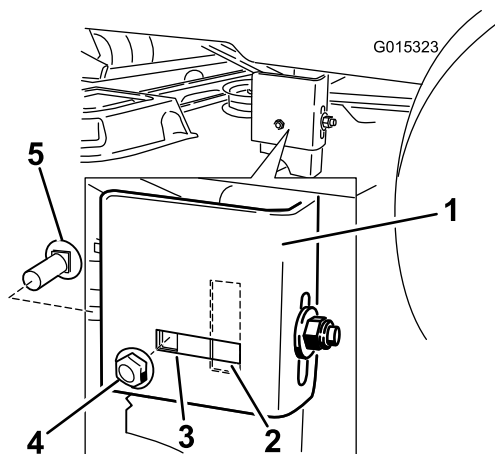

Figure 53
7. Move to the left side of the machine. Remove the side carriage bolt and locking nut from the fixed position and install it into the rear, slotted position (Figure 53).